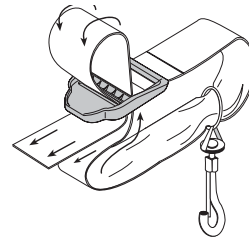

Fig. 3
2. Pull the strap over the cross bar and down through the slot in the buckle (Fig. 3).